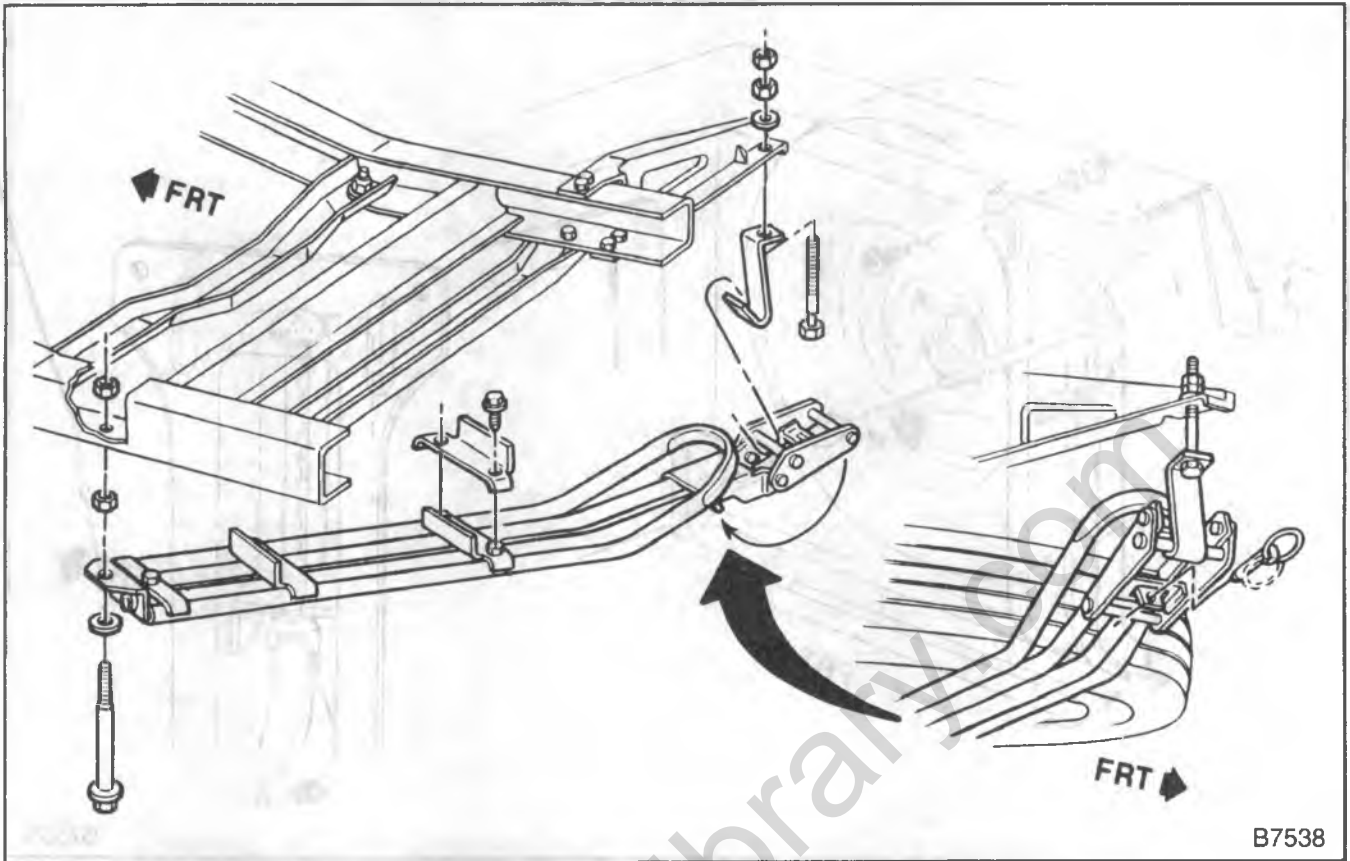

Figure 10—Underbody Glide Out Spare Tire Carrier-R209(43) and R/V 300
The underbody glide out spare tire carrier is available as an option on R/V 209 (43) and 300 series pickups (figure 10).